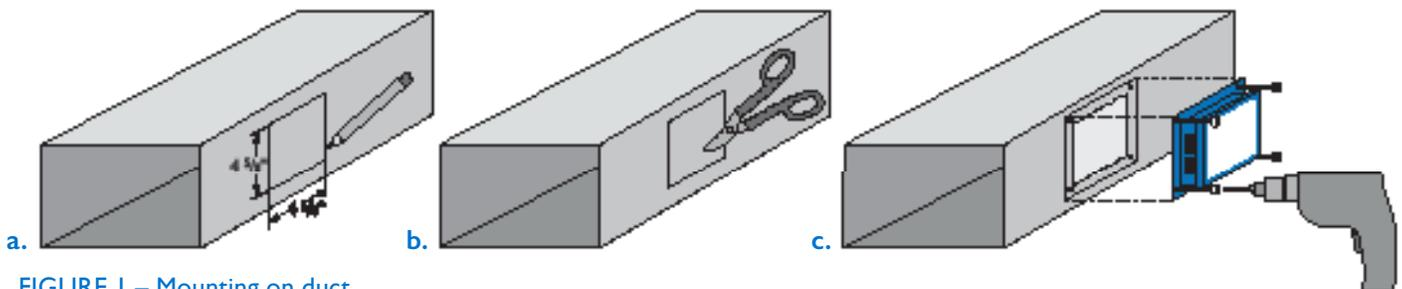

FIGURE 1 – Mounting on duct
2. To mount the 7000 Series in a duct: (See Figure 1)